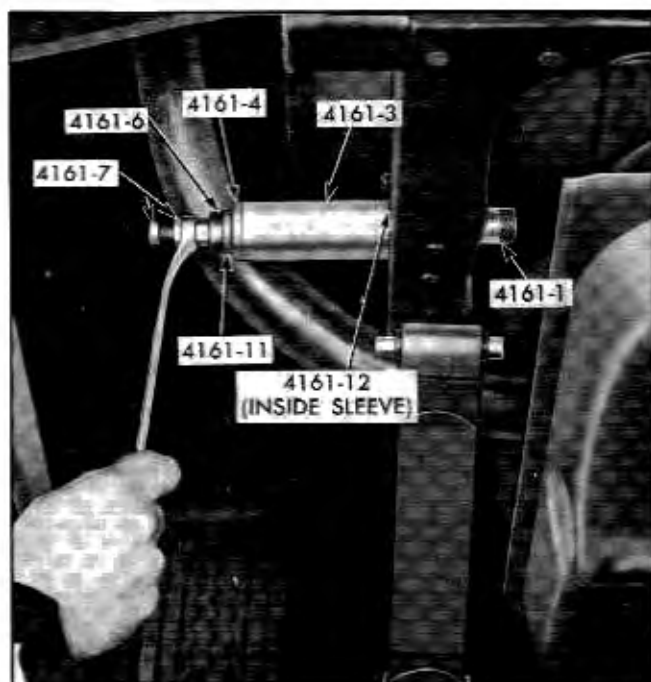

Fig. 4-52 Bushing Replacer Tool J-4161-A Positioned for Removal of Rear Bushing
b. Position pilot 4161-12 over bushing and outside of frame; insert threaded end of screw through bushing and turn small knurled adapter 4161-1 onto threaded end of screw (Fig. 4-52).
c. With all parts of tool properly positioned, turn hex nut of 4161-7 (Fig. 4-52) until bushing is pulled out of frame into sleeve of tool.